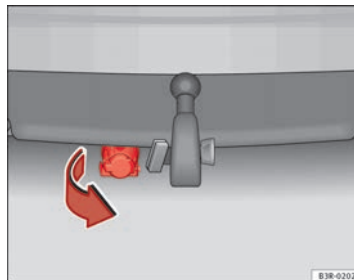

Fig. 158 Rear bumper: Pulling down the power socket
- To plug in the electrical connection for the trailer, pull down the socket below the bumper ⇒ **fig. 158**.